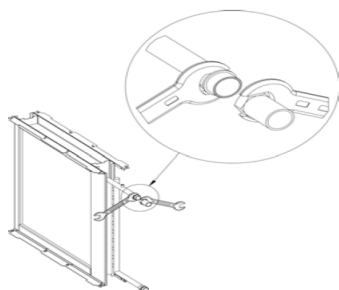

Figure 23 – Coil header connection method
*TO AVOID DAMAGING THE COIL CONNECTIONS AT COIL HEADER, IT IS ESSENTIAL TO HOLD THE CONNECTOR / PIPE WITH TOOLS WHILST APPLYING COUNTER FORCE TO TIGHTEN THE JOINT. (See Figure 23)*